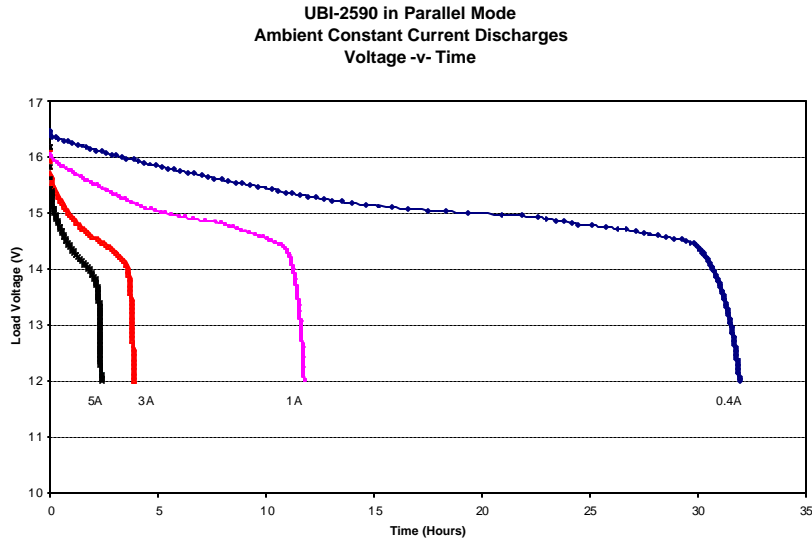

Figure 4
- 11.2. Parallel Mode (16.4v) Ambient Constant Current Discharges Voltage –v- Time (Figure 4)